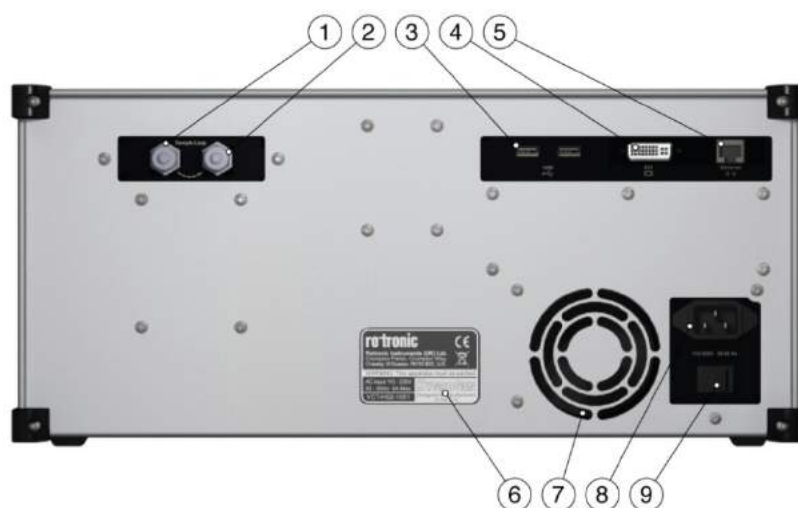

Figure 2: Rear of HygroGen2-S
This unit must be earthed. Provision for the safety earth is made through the electrical mains connection (see Figure 2(8) below) to which all parts of the unit requiring earthing are internally connected. An earthed electrical supply is required.
Before using your HygroGen2, make sure that the door is secured and that all probe apertures not in use are sealed with a bung (see Figure 2(7) above) or an appropriate alternative seal.
Unless an external sampling system is to be used (see “External Sample Loop Operation” in Appendix A1.3), ensure the sample loop caps (Figure 2(1) and (2) above) are firmly secured.